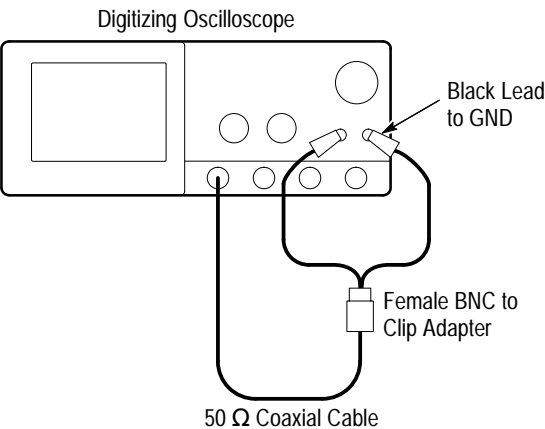

Figure 1–22: Initial Test Hookup
- Connect one of the 50 Ω cables to **CH 1**. See Figure 1–22.
- Connect the other end of the cable just installed to the female BNC-to-clips adapter. See Figure 1–22.
- Connect the red clip on the adapter just installed to the **PROBE COMPENSATION SIGNAL** on the front panel; connect the black clip to **PROBE COMPENSATION GND**. See Figure 1–22.